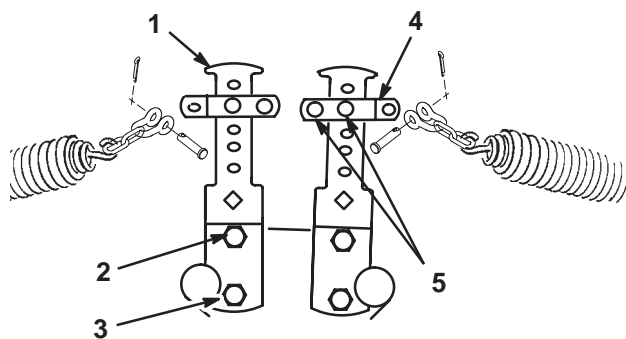

Figure 16
4. Secure the other end of the spring to the appropriate hole (see below) on the front and rear counterbalance arms (Fig. 16 & 17) with the spring shackle with the chain, clevis, clevis pin, and cotter pin.
5. Secure the other end of the spring to the second hole from the top with the spring shackle with the chain, clevis, clevis pin, and cotter pin (Fig. 16).
8. Secure the bottom of the counterbalance arm to the frame with the capscrew and nut previously removed. Tighten the top capscrew (Fig. 16).